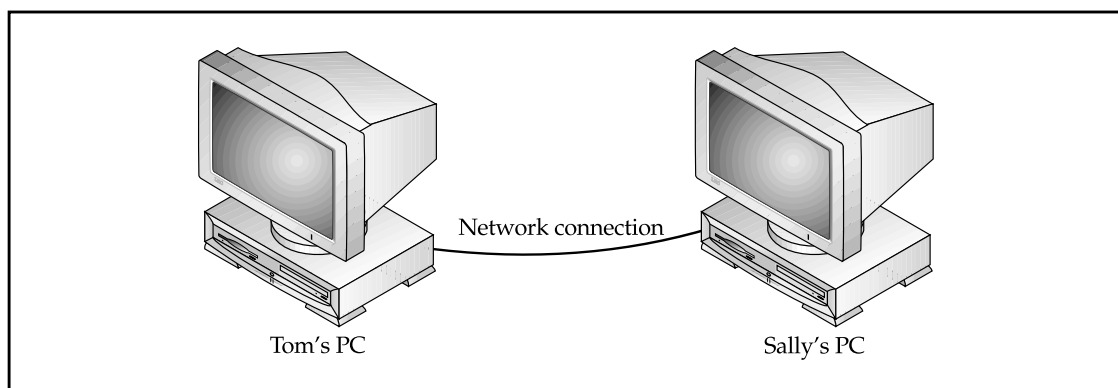

Figure 20-1. A simple network structure
In its most basic form, a network is two or more computers that are connected with a communications line for purposes of sharing resources. Figure 20-1 illustrates a basic network that connects Tom's PC to Sally's PC so that they can share each other's files. So, if two (or more) computers connect to each other over a telephone line or through a piece of cable or even through a wireless connection and the users are able to access and share files and peripheral devices on the other computers, a network is formed. Most networks are a little more complicated than this, but essentially the arrangement just described is all that is really necessary.
- ▼ **Peer-to-peer (peer-based) networks** Two or more computers directly connected to one another for the sole purpose of directly sharing data and hardware resources. The very simple network shown in Figure 20-1 shows a peer-to-peer network. Tom and Sally are directly connected by a cable and are able to grant permission to each other to open and use files and programs stored on their PCs and to share CD-ROM drives, printers, and other hardware. On a peer-based network, each user is responsible for the security and access of his or her PC because there is no central administrator. A peer-to-peer network is practically limited to not more than ten PCs arranged as a LAN.